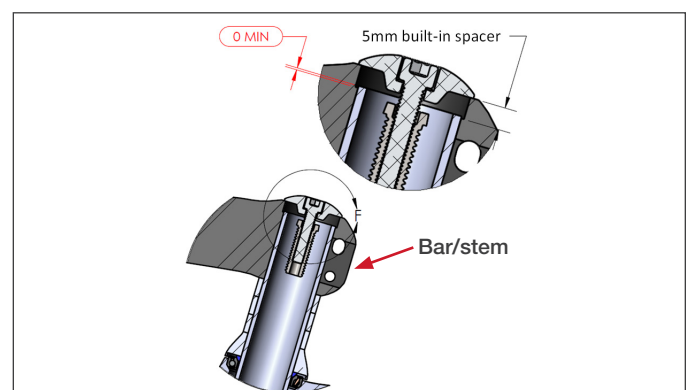

Figure 3
10. With the bar/stem fully assembled, the steerer tube should be even with or above the step in the built-in 5mm spacer in the bar/stem (see Figure 3).